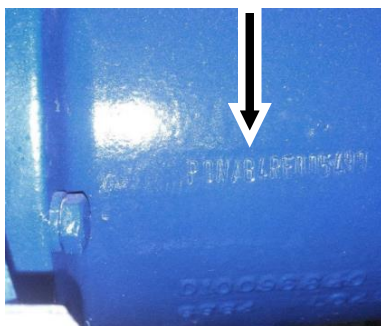

Fig. 1b
- The chassis (tractor) serial number is punctured on the right reduction gear housing (Fig. 1b).